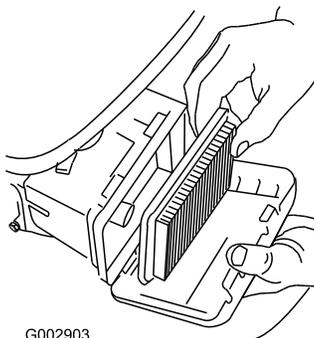

**Figure 40**
1. Press down on the latch tabs on top of the air-filter cover (Figure 40).